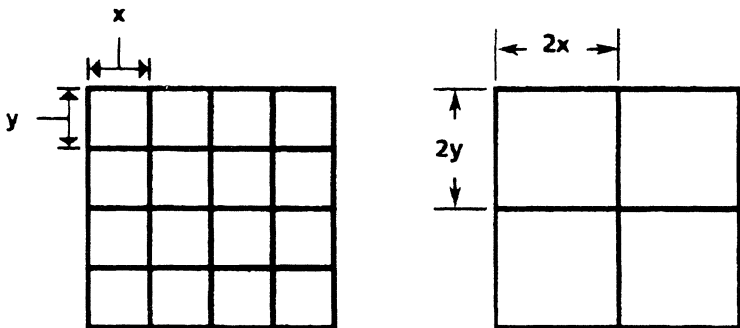

Figure 2-7 Resolution and pixel size
(M) Graphic windows may be printed with 1, 2 or 4X magnification. With 1X (one times) magnification, each bit in the graphic file represents one printed or unprinted dot. With 2X (two times) magnification, each bit in the graphic file represents **two dots in both X and Y directions**. Thus, the number of bits required to cover a given area is reduced by a factor of 4. Similar calculations may be performed for 4X magnification, using a factor of 16. The resulting image is coarser, but requires one-fourth the storage area in memory. This relationship is shown in Fig. 2-7 and Table 2-8.